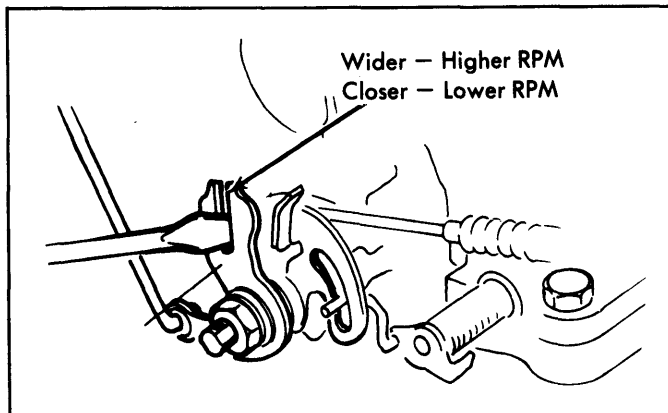

Fig. 7: Adjusting Throttle Opener Speed
- 3) If speed is too low, widen adjustment slot in throttle control linkage. See Fig. 7. If speed is too high, narrow slot opening. If speed cannot be adjusted, or diaphragm will not hold vacuum, replace diaphragm and repeat test.